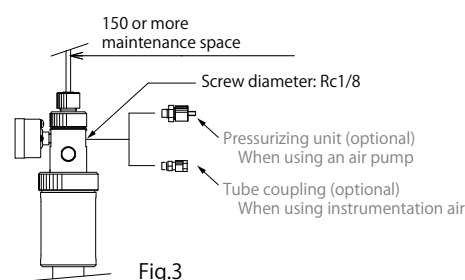

Fig.3
- To pressurize using instrumentation air, install a tube coupling. See [Fig.3]